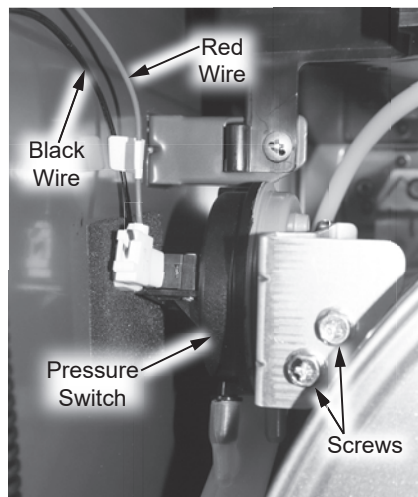

Figure 70 - Pressure switch location
**4** Locate the pressure switch on upper left side of the water heater. See Figure 70.
**5** Disconnect the black wire harness from the common (C) connector and the red wire harness from the normally closed (NC) connector. See Figure 70.
**6** Remove and keep the two screws securing the pressure switch to the water heater. See Figure 70.
- 14 Reconnect the black wire harness to the common (C) connector. Reconnect red wire harness to the normally closed (NC) connector. See Figure 70.